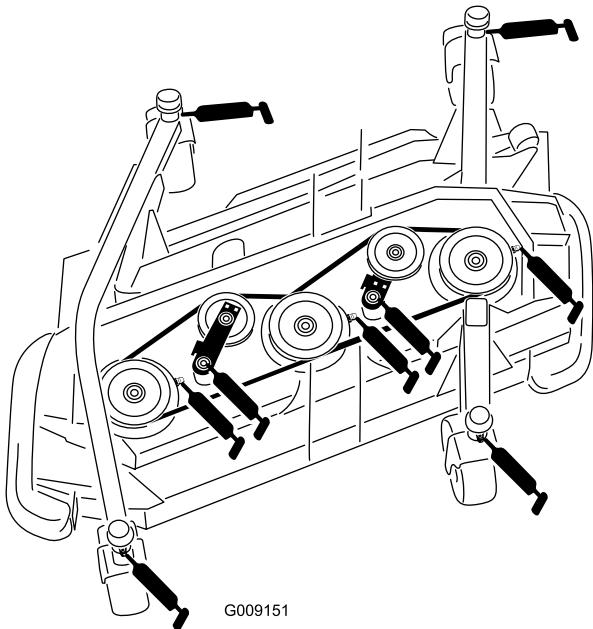

Figure 52
- Castor fork shaft bushings (4) (Figure 52)
- Spindle shaft bearings (3 each) (located on spindle housing) (Figure 52)
- Idler arm pivot bushings (2) (located on the idler pivot shaft) (Figure 52)